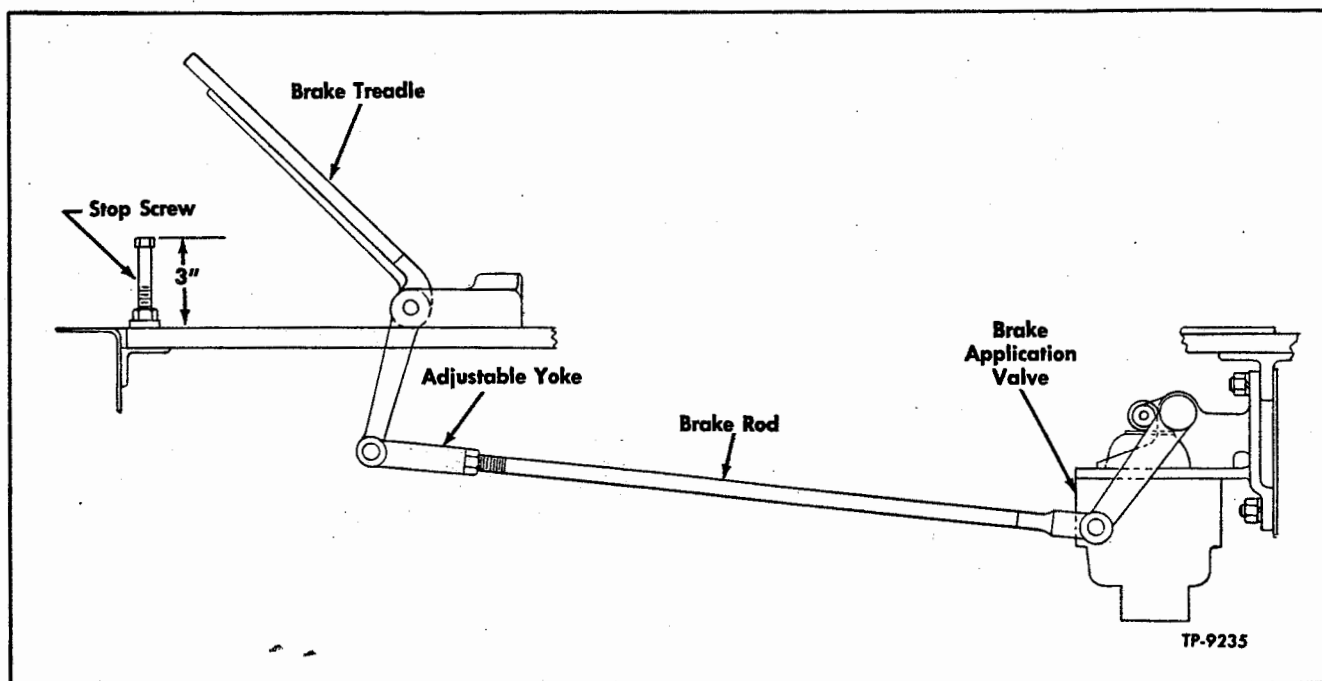

Figure 2—Brake Treadle and Linkage
BRAKE TREADLE LINKAGE ADJUSTMENTS (Fig. 2)
3. Adjust stop screw on toeboard to dimension shown in figure 2. Tighten lock nut on screw.